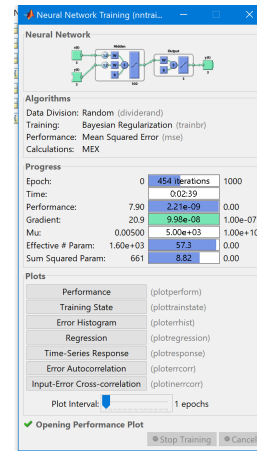

Fig. 7. Example of training NN.
- Train the NN (Fig. 7) by running: